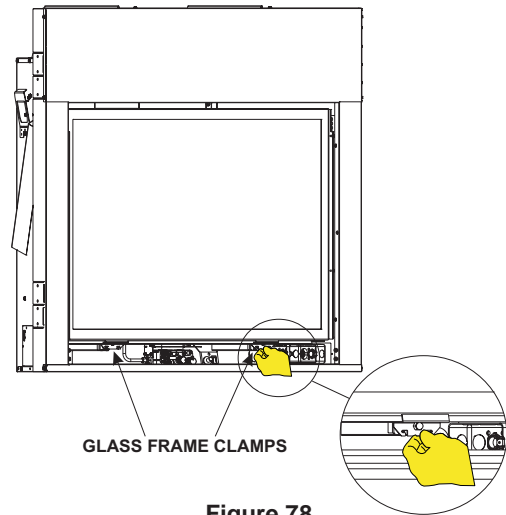

Figure 78
- Check all latches or other door retention components for proper operation, tension, and relief mechanisms are free from obstructions. **See Figure 78.**